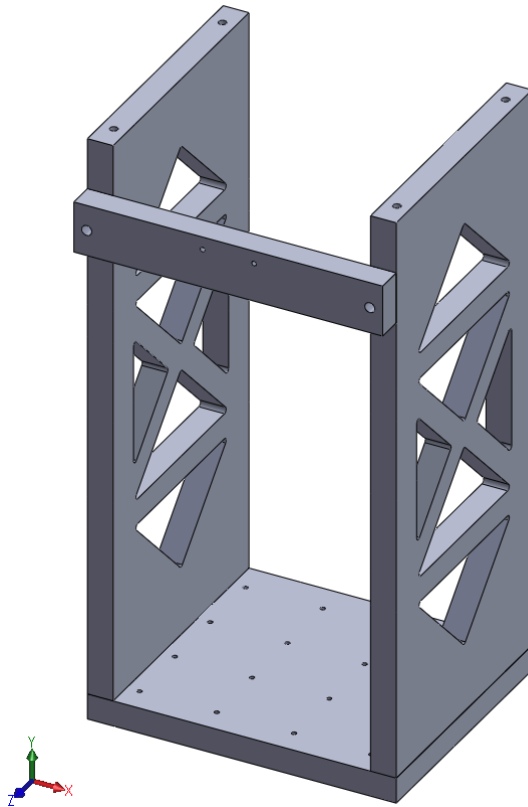

Fig. 5: Shelf Configuration 2
4.10: Repeat steps 4.01 - 4.09 with shelf Config. 2 installed as shown in Fig. 5.	OK? _____